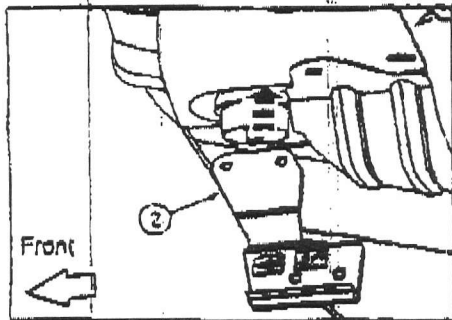

Fig. 5
7. Insert the Bumper Bar Left Mounting Bracket through the clearance area around the splash trim and the front frame mounting area. (See Fig. 5)